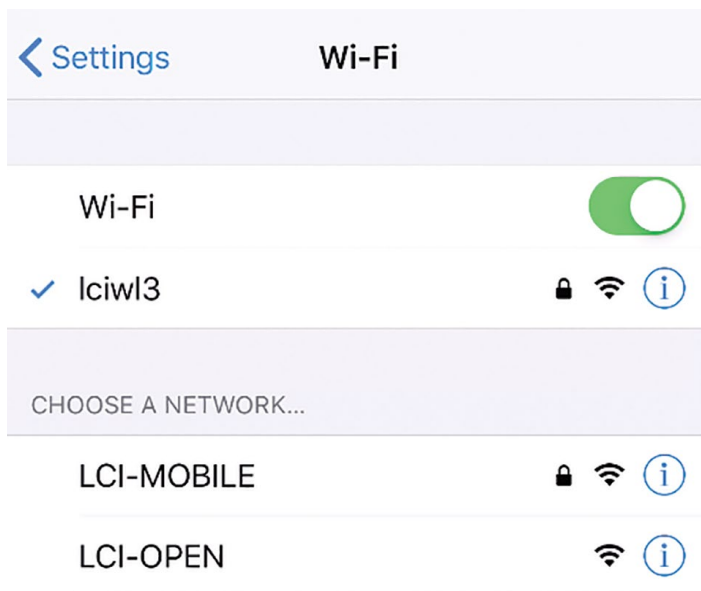

Fig.16
1. On the mobile device being used, go to Settings > Wi-Fi. Make sure the Wi-Fi setting is turned on (**Fig.16**).